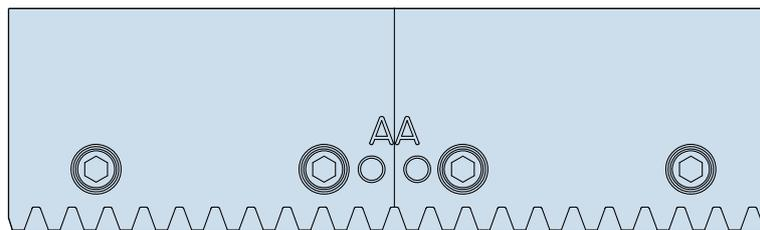

Figure 3
6. Place the second piece of track onto the mounting surface, against the back register. For butted joints ensure that the marks correspond either side of the joint, as shown in Figure 3.